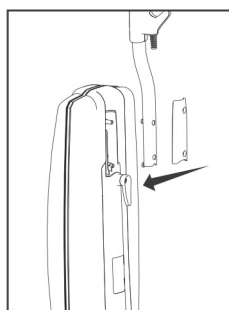

Fig. 3
3. Place handle onto the back of the vacuum, aligning holes with pegs (Fig. 3).